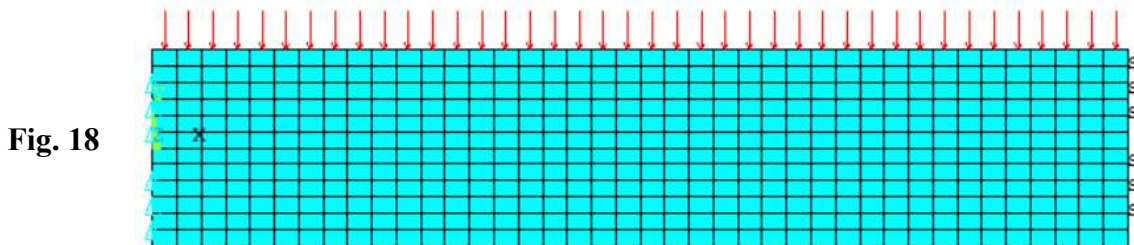

Fig. 18
15. Repeat the calculation for a 2D model of the beam in a plane stress state using PLANE183 element (Fig. 18). Apply displacement  $U_y = 0$  on the left edge instead of at a keypoint.